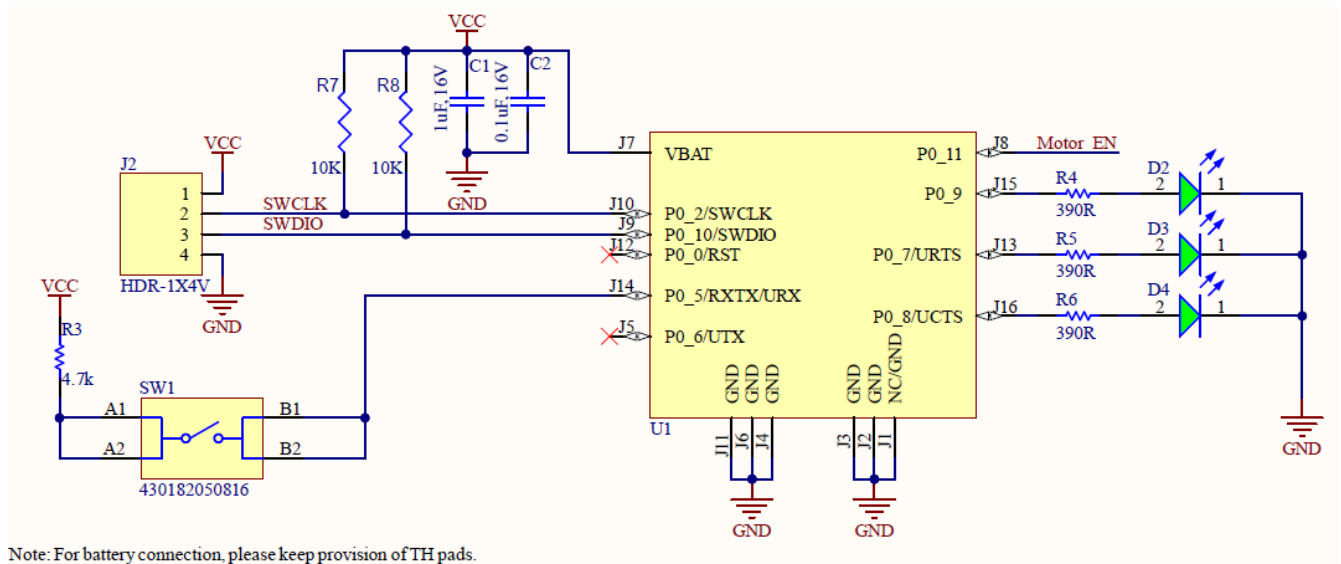

Figure 2. MCU Section Schematic
- Figure 2. MCU Section Schematic 4